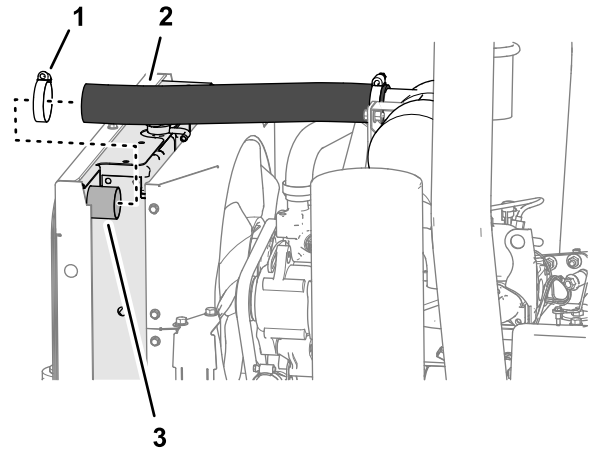

Figure 16
3. Remove the hose clamp that secures the air-intake hose to the outlet at the top radiator bracket (Figure 16).